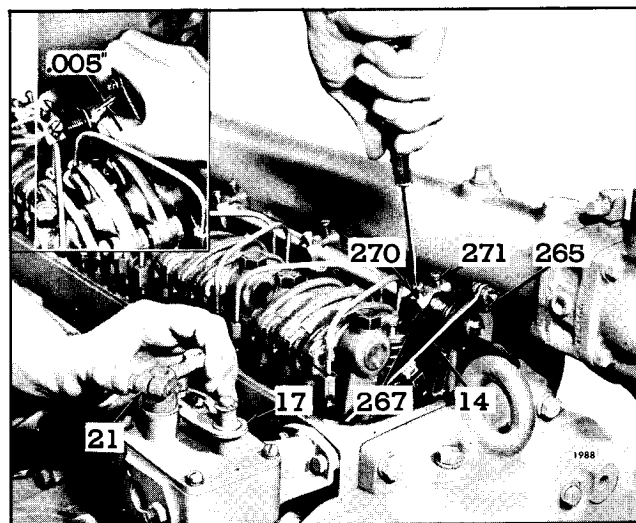

Fig. 2 - Positioning No. 1 Injector Control Rack Lever
1. Refer to Fig. 2 and disconnect any linkage attached to the control lever (21).
2. Loosen all the inner adjusting screws (270) and outer adjusting screws (271) as shown in Fig. 2. Be sure all the control levers (267) are free on the injector control tube.
3. Move the control lever (21) to the maximum speed position as shown in Fig. 2. Turn the inner adjusting screw down until a step up in effort is noted. This will place the No. 1 injector rack in the FULL FUEL position. Turn down the outer adjusting screw until it bottoms lightly on the injector control tube. Then alternately